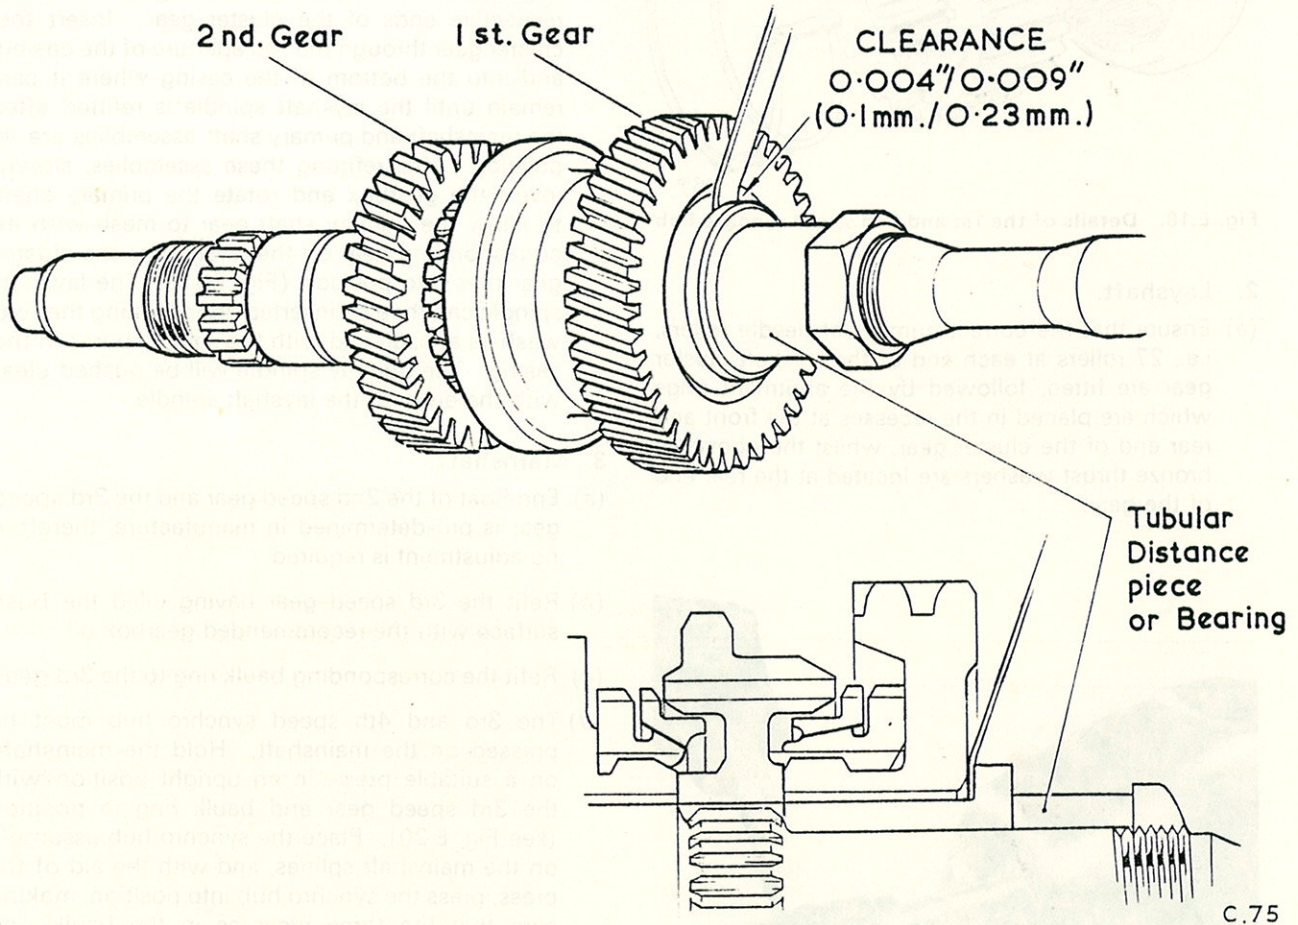

Fig. E.17. Checking end float
3. Using a feeler gauge, check the distance between the rear face of the first speed wheel and the shoulder of the first speed distance bush as shown in Fig. E.17.